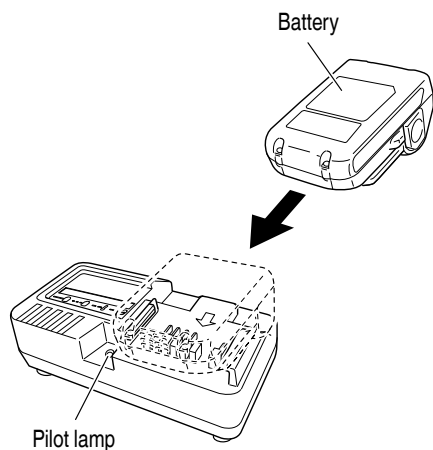

Fig. 4
2. Insert the battery to the battery charger. Firmly insert the battery into the charger as shown in Fig. 4.